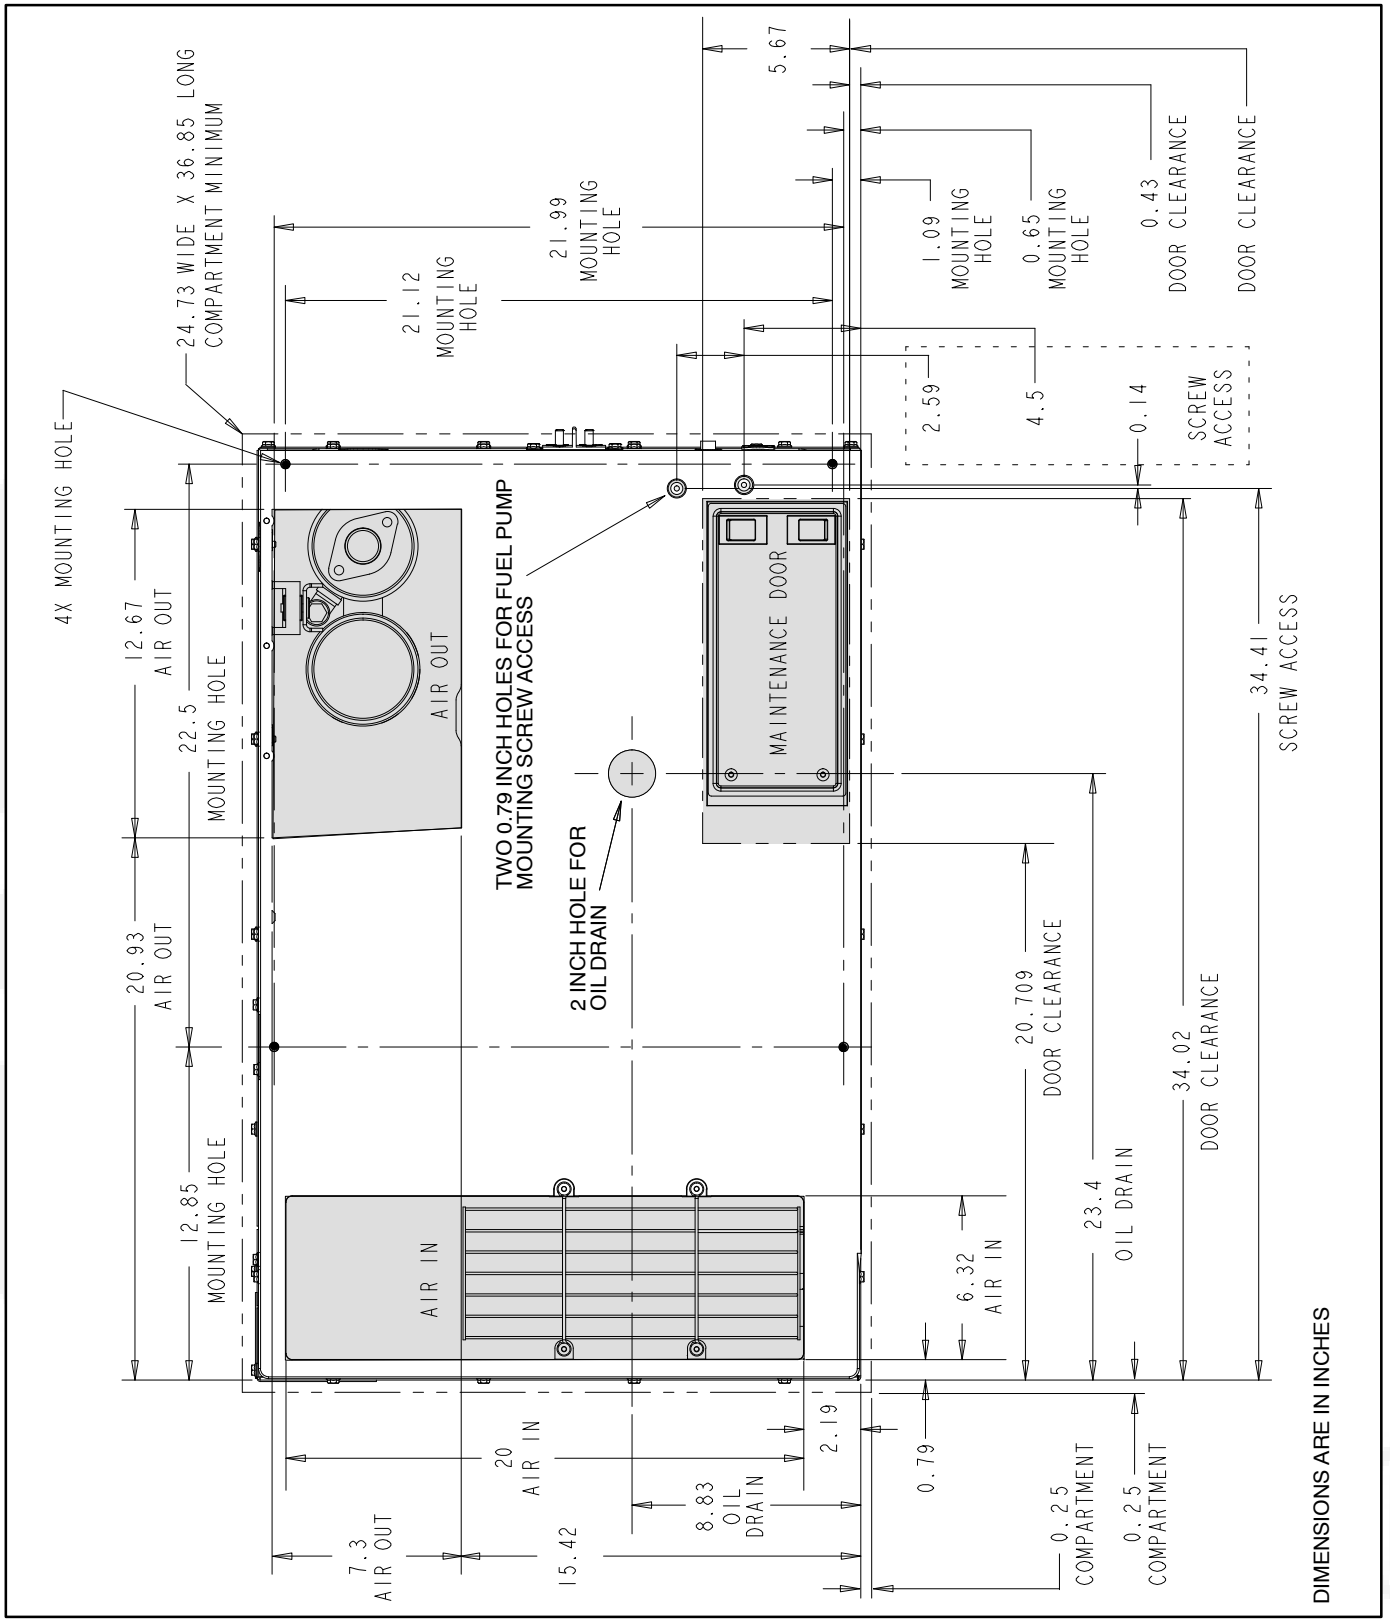
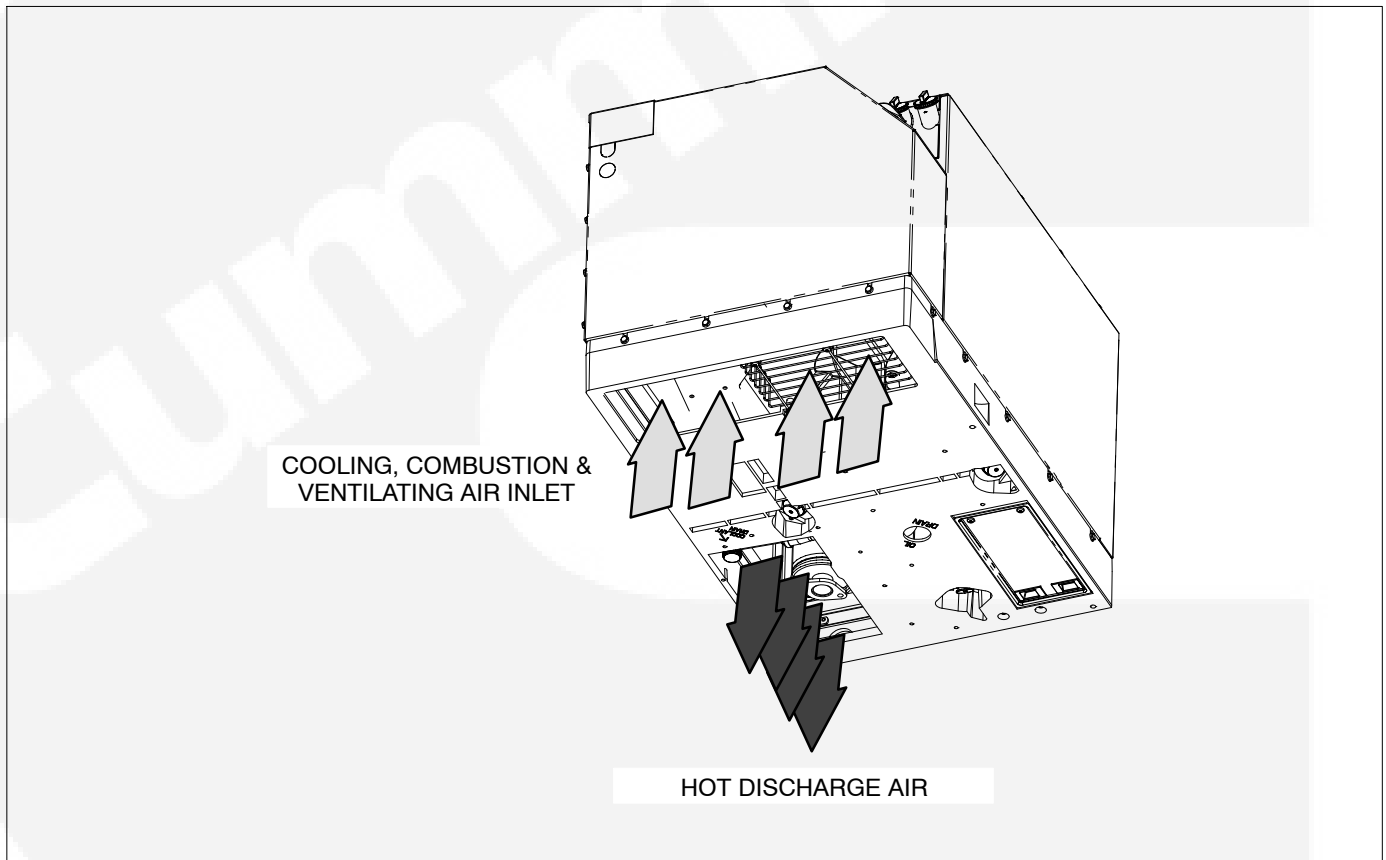

FIGURE 2. FLOOR PLAN
FIGURE 3. COOLING, VENTILATION AND COMBUSTION AIR FLOWS
3. Make sure that frame cross members, exhaust tail pipes and other equipment do not cross underneath the oil drain plug or air intake and discharge openings or the oil and fuel filter access door. These are the shaded areas on Figure 2.
4. Provide access for removing the two fuel pump mounting screws so that the genset does not have to be removed to replace the fuel pump. See Figure 2.
Unrestricted air flow for cooling, ventilation and combustion is essential for proper genset performance and service life (Figure 3). The air intake and discharge openings are in the bottom of the genset. These are the shaded areas on Figure 2. See also HOT AIR RECIRCULATION TEST (Page 27).